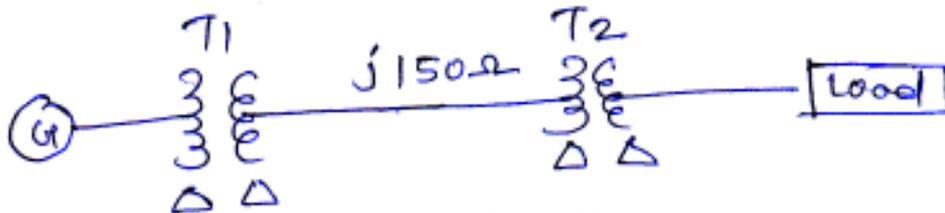

Fig. 3 (b).
- b) A, 12000 KVA, 12.5 KV, three phase alternator has a subtransient reactance of  $0.1 \Omega$ . It is connected through a  $\Delta - \Delta$  three phase, transformer to high voltage transmission line having total series reactance of  $150 \Omega$ . A load of 13.8 KV, 15000 KVA with reactance of  $j 0.526$  p.u. is connected at the end of line through  $\Delta - \Delta$  three phase transformer. Both transformers are rated 18 KVA, 13.8 KV/138 KV with the reactance of  $0.12 \Omega$ . Choose a base of 15000 KVA, 13.8 KV in load circuit. Draw reactance diagram and determine voltage at the terminals of generator Fig. 3 (b). 8